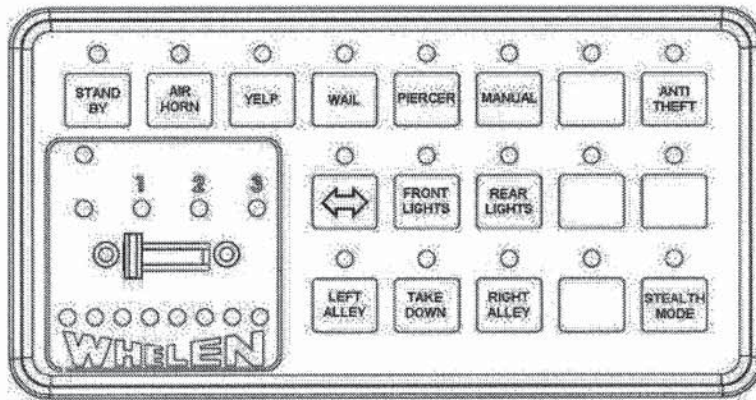

Figure 14 – Whelen – CenCom Sapphire Controller
- b. *Whelen – CenCom Sapphire Siren and Light Controller*, model CCSRN3 (see *Figure 14* for configuration);